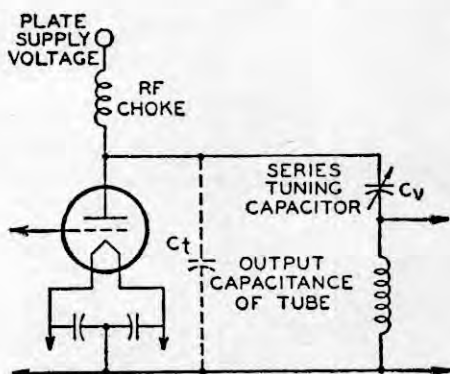

Fig. 38
(4) Employ a "series-tuned" tank circuit of the type shown in Fig. 38, in which the variable capacitance C_v is several times larger than the tube capacitance C_t .